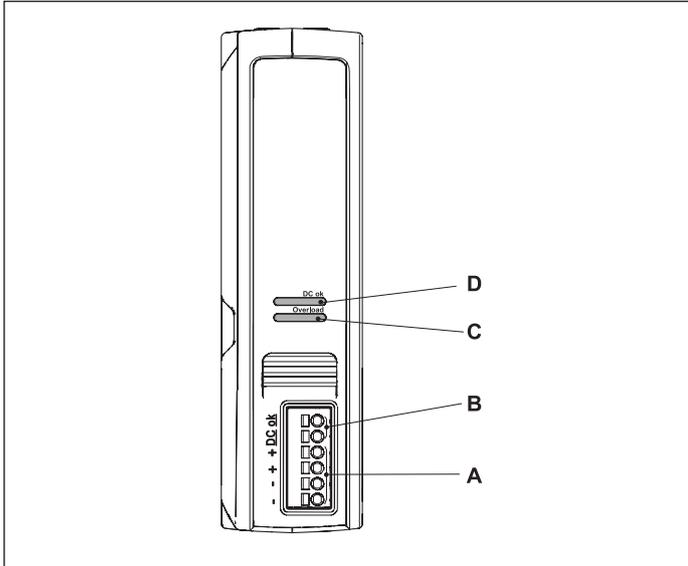

Figure 1
4. Operating and indicating elements (Figure 1)